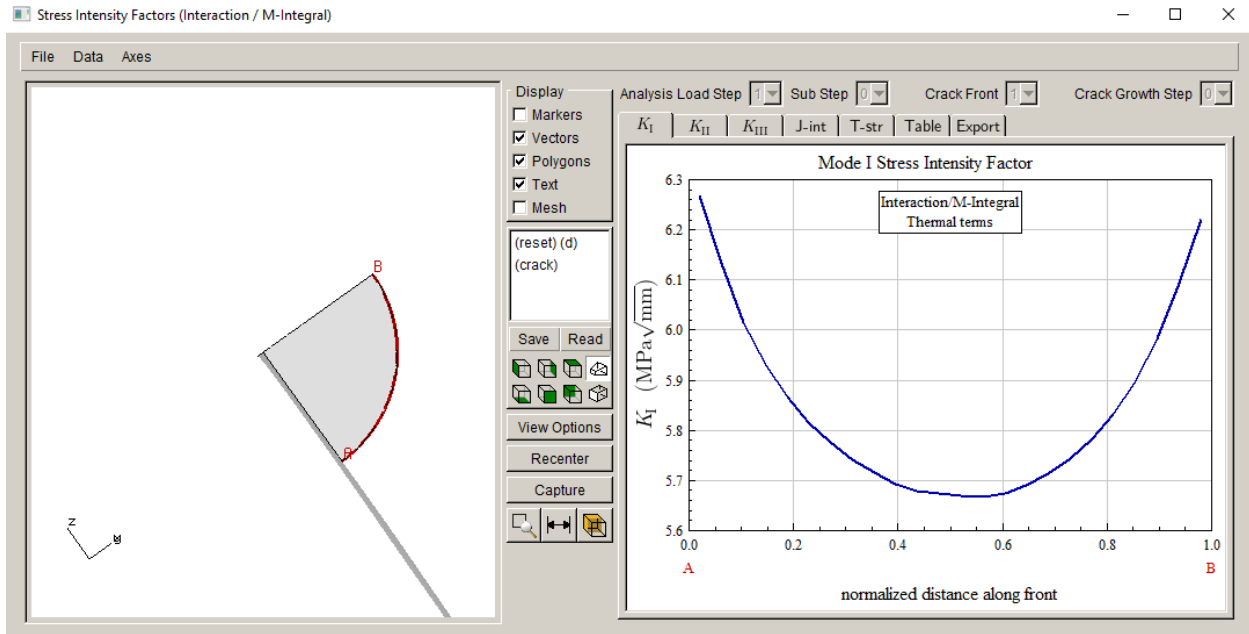
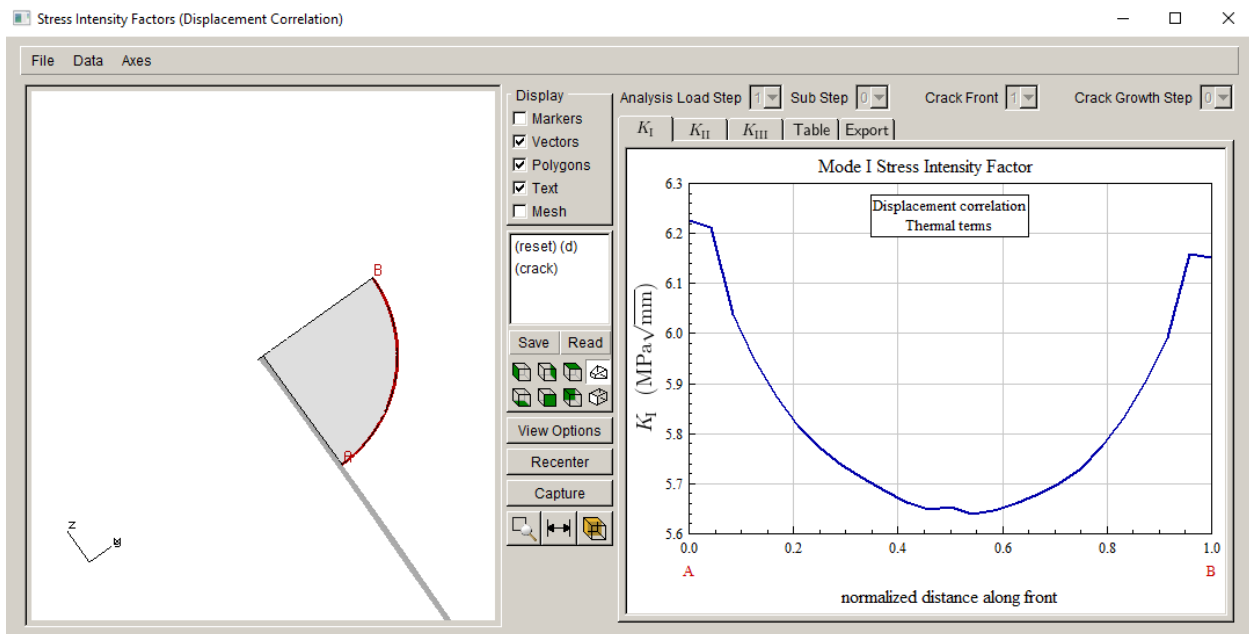
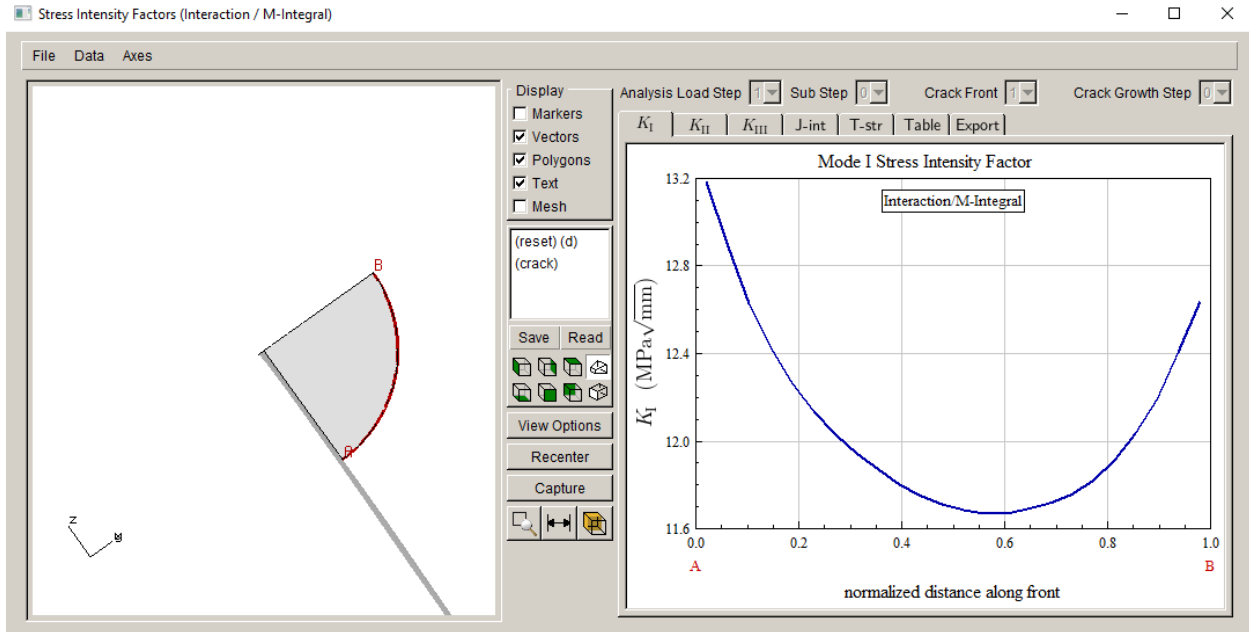

Figure 4.16 M-Integral SIFs.
Figure 4.17 Displacement correlation SIFs.
Figure 4.18 M-Integral based SIFs without thermal terms added.
The SIFs based on the M-integral are shown in Fig 4.16 and the SIFs based on Displacement Correlation (DC) are shown in Fig 4.17. It should be noted that the SIFs do not differ much, indicating that the SIFs are computed correctly. If your results differ significantly, you should ensure that the nodal temperatures and reference temperature are correct. Note that if you do not include thermal terms when computing M-integral SIFs, the results will be quite different from the DC SIFs, Fig 4.18.